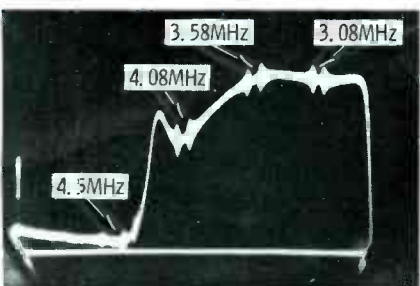

Fig. 12 It is sometimes helpful to see the VSM curve of the receiver (tuner testpoint to the video detector).
1. Turn the range switch to "chroma". Tuning and sweep width are pre-set; turning these controls on "chroma" function produces no change. Slide the sweep direction switch to reverse, and switch on the 4.5-MHz, 4.08-MHz, 3.58-MHz and 3.08-MHz markers. Connect the red clip of pad 39G22A to the tuner testpoint and the black clip to ground. Connect the blue clip of the Sencore 39G23 detector probe to the video detector, TP1. Fig. 12 shows the approximate curve expected at that point. This step is not absolutely necessary, but it is a check of the IF alignment.